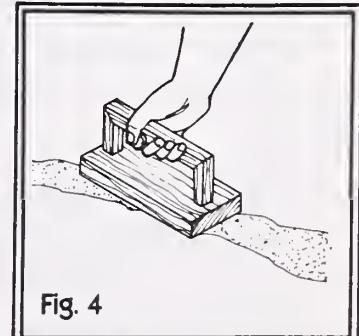

Fig. 4
6. Using the wood float, smooth the mixture even with concrete surface (fig. 4).
4. Keep crawl spaces well ventilated. A house of 1,000 square feet should have at least 8 vents, 16 inches x 8 inches, open at all times. Crawl spaces should be at least 2 feet in height (fig. 4). Keep the space clear of wood scraps.